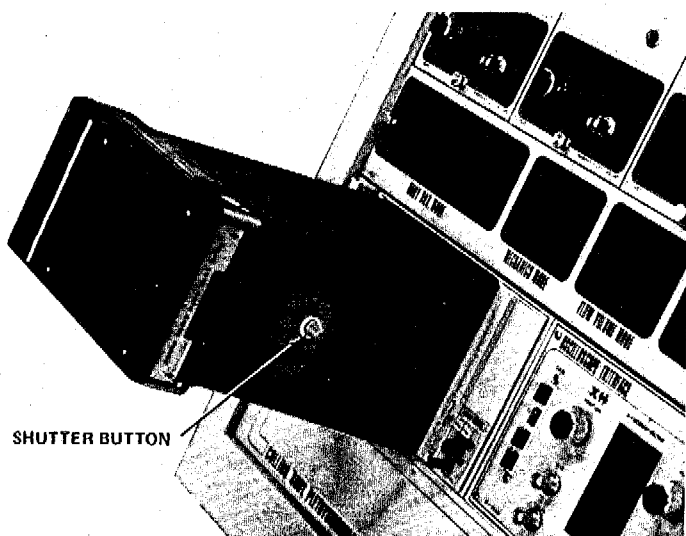

Figure 26 - Using Camera to Photograph Traces
A.5. When a trace is to be photographed, the graticule is removed and the C-5 camera (or optional C-59 camera) is hung on the front of the oscilloscope screen (Figure 26) much in the same fashion as the graticule. The shutter is then correctly set as outlined under the plastic viewing door. With a film pack in the camera, the SHUTTER button is pressed, the film is pulled out and at least 10 seconds is allowed for proper development. A more detailed explanation of the C-5 and C-59 cameras is offered in the manufacturer's manual.